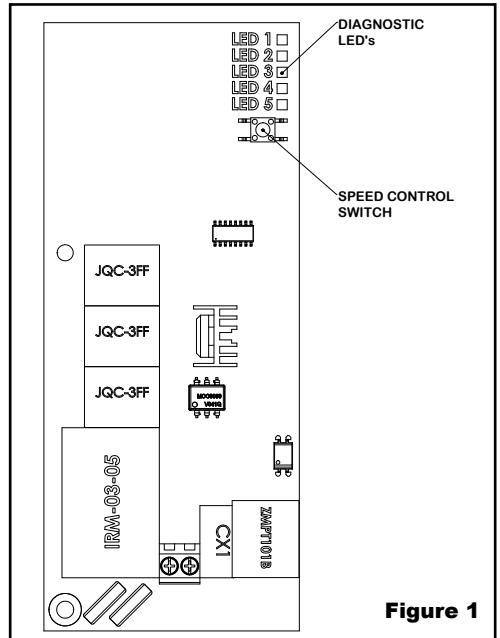

Figure 1
These models include adjustable blower speed control for (3) levels of operation – Hi, Med and Low. The switch is located on the printed circuit board inside the dryer as shown in Fig. 1 below.
3. Locate the switch on the printed circuit board inside the dryer as shown in Fig. 1 below, and adjust blower speed as desired. (Note: When Med or Low speed is selected, LED 3 on the printed circuit board will be lit). Reassemble the dryer cover using the security hex key supplied to turn the cover mounting screws **counter-clockwise** and tighten until snug. Do not over tighten.
The printed circuit board includes a set of LED's that indicate the operational status of the hand dryer. When contacting World Dryer Technical Service, be prepared to remove the dryer's cover and provide the condition of the LED's as this can be helpful in troubleshooting the dryer. See Figure 1 for location of diagnostic LED's on the printed circuit board. See Table 4 for an explanation of LED function.